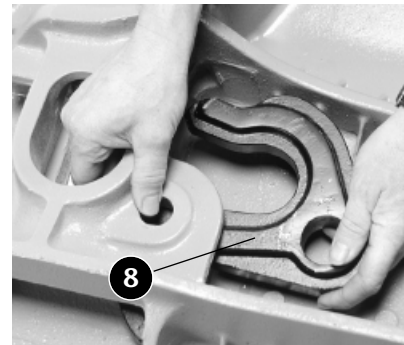

Figure 71
- Remove the jaw by sliding it towards the jaw pin side of the fifth wheel plate and lift it out (*Figure 71*).